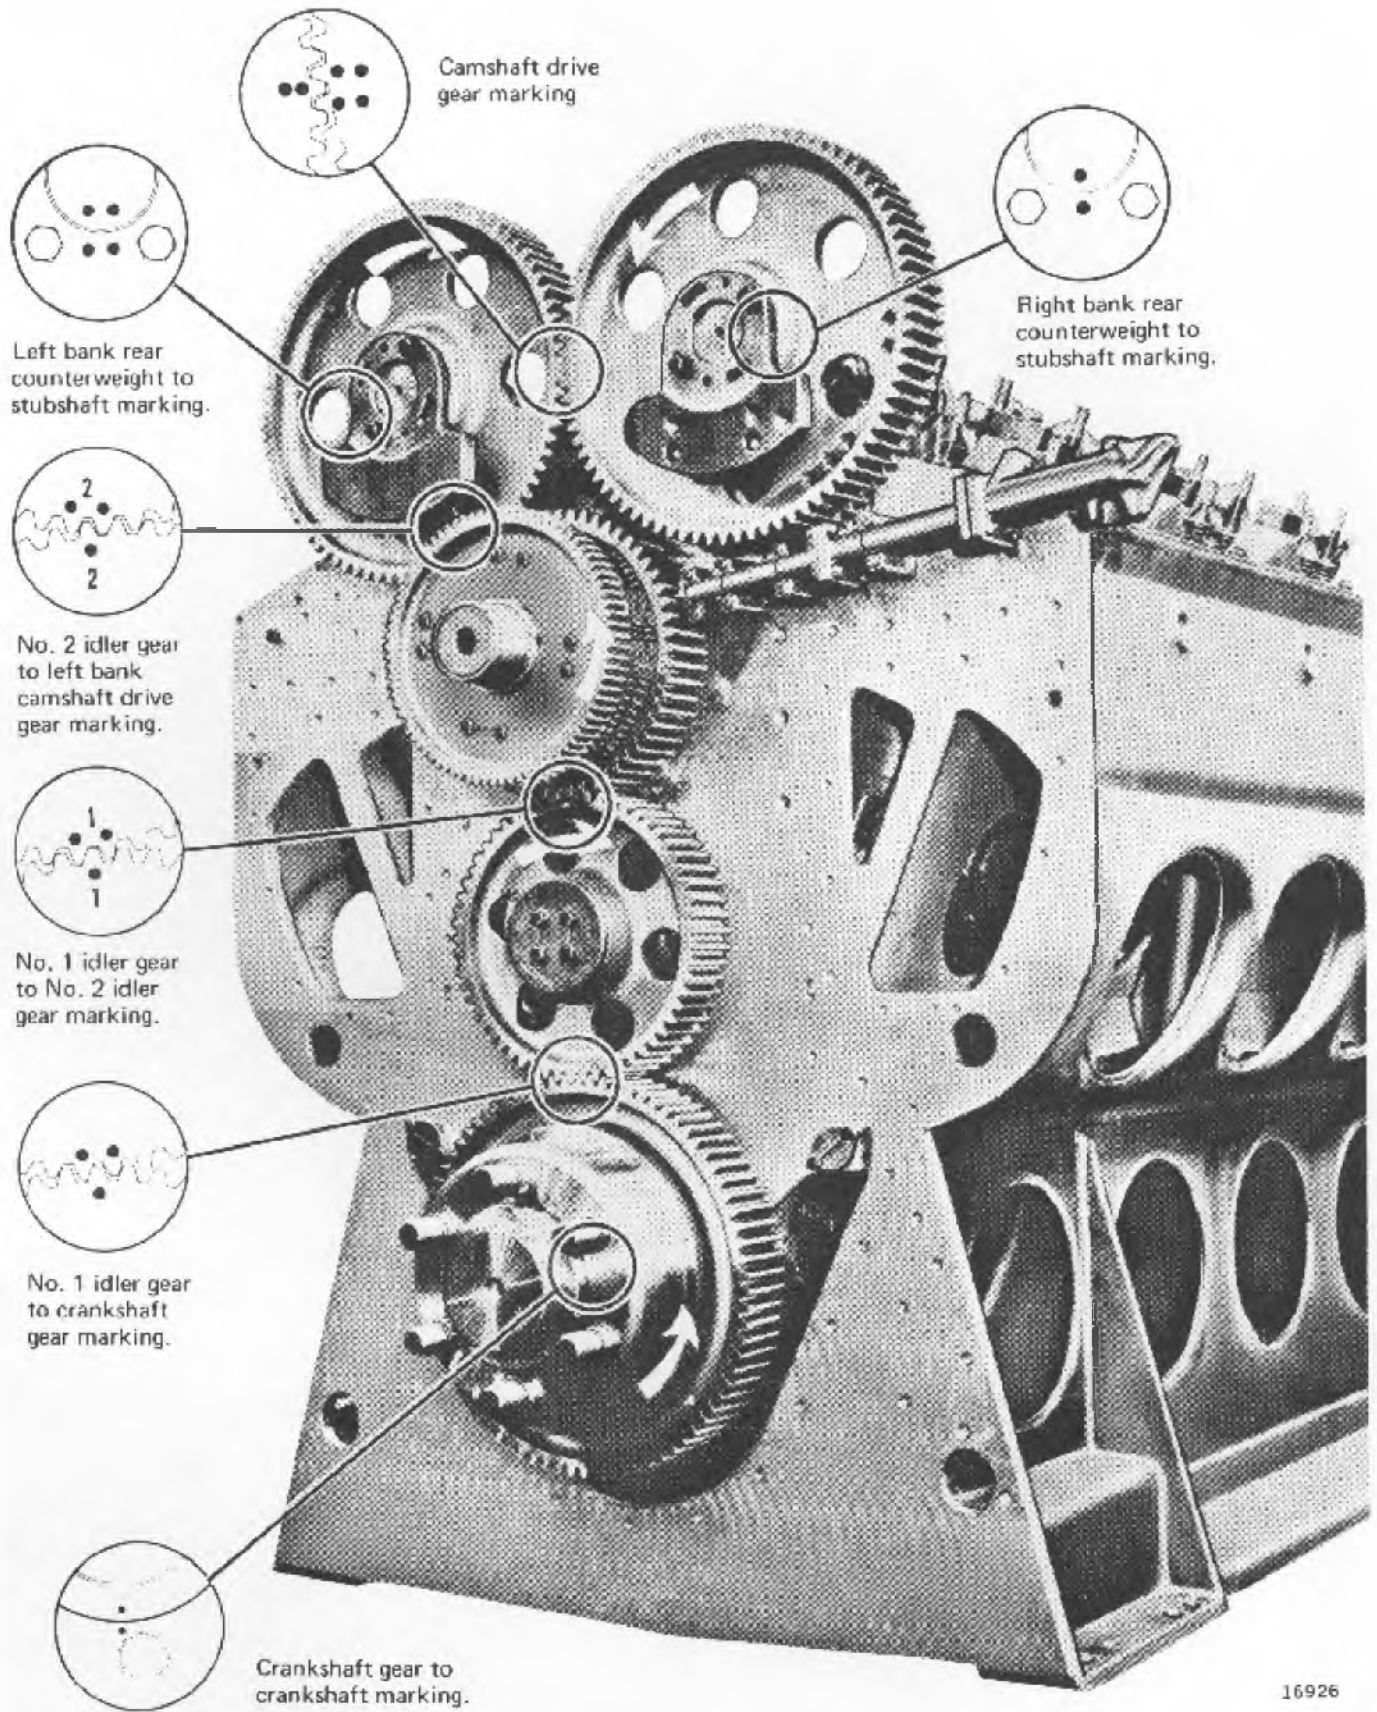

Fig. 7-21 - Camshaft Gear Train Marking
16. After timing has been completed, the relative position of the mating parts should be identified similar to the method used on new engines, shown in Fig. 7-21. The mating parts are marked with No. 1 piston at top dead center. This completes valve timing procedures.